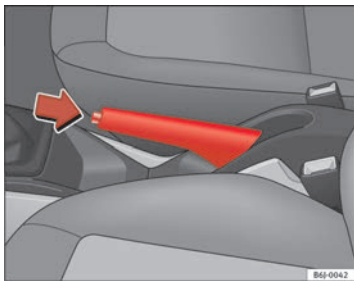

Fig. 115 Handbrake between the front seats
- Pull the handbrake lever up firmly ⇒ fig. 115.
- Pull the lever up slightly and press the release knob in the direction of the arrow ⇒ fig. 115 and guide the handbrake lever down fully ⇒ .